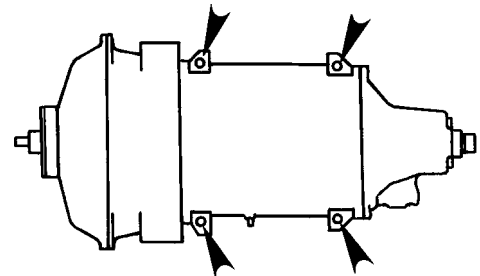

Figure 1
1. Bolt the mounting plate to the transmission as shown in Figure 1.